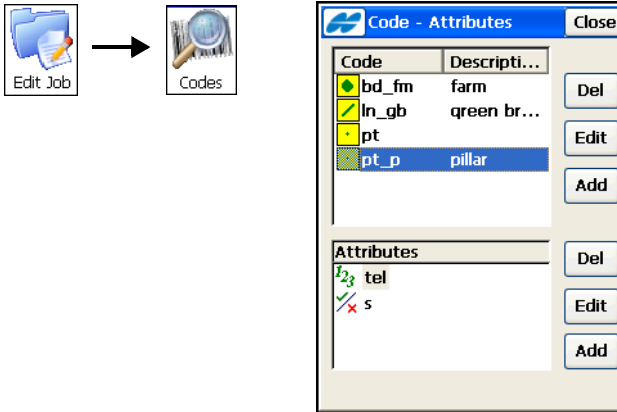
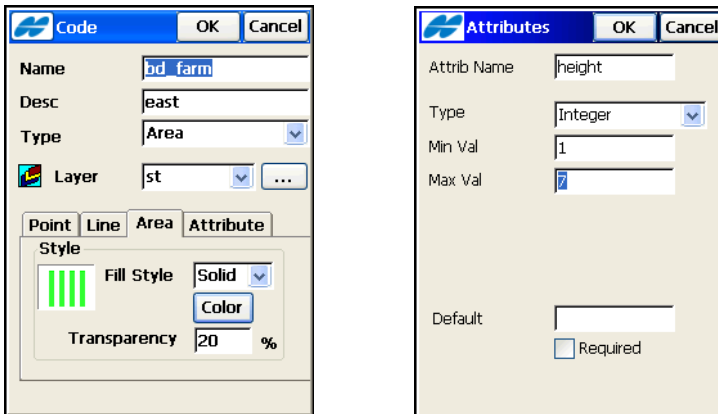
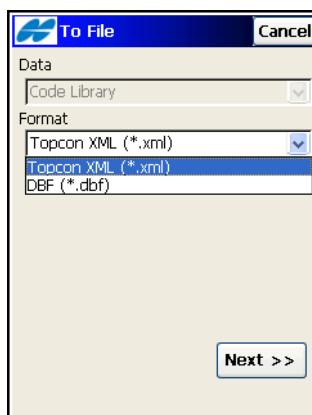

Figure 6-17. Code - Attributes
Figure 6-18. Edit Codes / Attributes
Figure 6-19. Export to Code Library
To edit codes and attributes, tap **Edit Job ▶ Codes**. Codes already in use cannot be edited or deleted. The *Code - Attributes* screen displays (Figure 6-17).
1. To add a code, tap the **Add** button on the right side of the screen. The *Code* screen displays. Enter the code name and description (if needed). Select the type of code (from *Point*, *Line*, *Area*) and the layer that the code will be stored to. Set the Code Style to represent points, lines and areas with this code on the selected layer (Figure 6-18 on page 6-13). On the *Attributes* tab, select a radio button for the prompt for code at the beginning of a line or at every point along the line. Tap **OK**.
2. To define the attributes for the new code, select the code and tap the **Add** button on the right side of the screen. Set the name, type, and parameters of the attribute for the code on the *Attributes* screen (Figure 6-18 on page 6-13). Attribute type indicates whether attribute values can be set as boolean *True* or *False*, or selected from a list of available values, or are alphanumeric strings, integers or real numbers. Check and enable the *Required* box to always use the default value of the code. Tap **OK**.
3. To edit a code or attribute, double-tap the object or select it and tap the corresponding **Edit** button (Figure 6-17 on page 6-12). In the **Code** or **Attribute** screen, make changes and tap **OK** (Figure 6-18).
4. To delete a code or attribute, highlight it in the list and tap the corresponding **Del** button (Figure 6-17 on page 6-12). Codes being used in points and their corresponding attributes cannot be deleted.
5. To export the code library to the selected file format, select the *Export To File* option (Figure 6-19 on page 6-14) from the Help Icon menu in the upper-left corner of the **Code - Attributes** screen (Figure 6-17 on page 6-12).